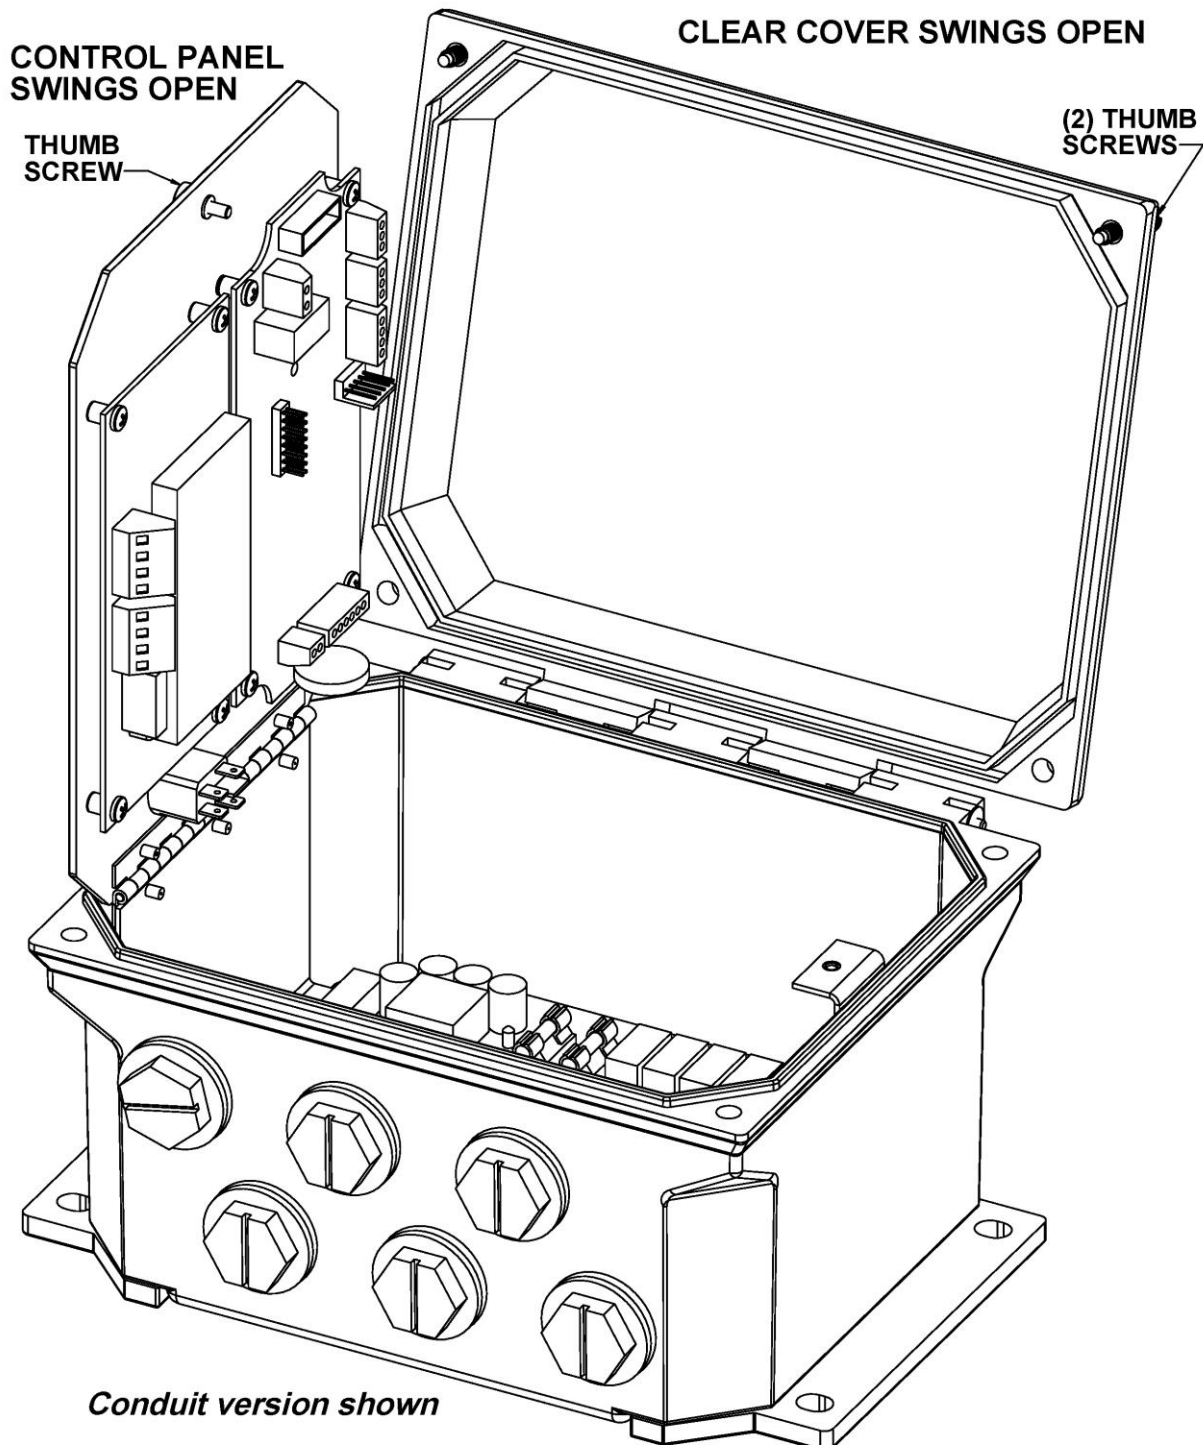

Fig. 2
Loosen the two (2) thumb screws to open the front cover of the controller, then loosen the inside panel thumb screw and carefully swing the panel to the right (*Fig. 2*).